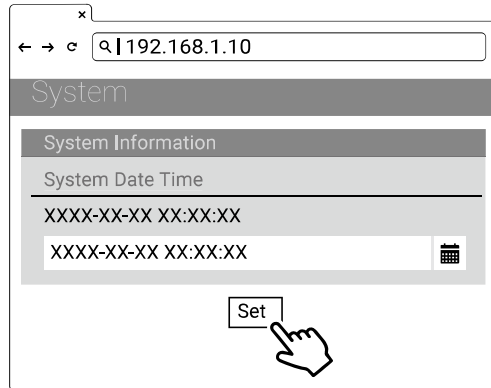

Figure 4-14. Set Date/Time
- 5) Select SET and wait until seeing the completion window appears. Refer to the following figure 4-14.